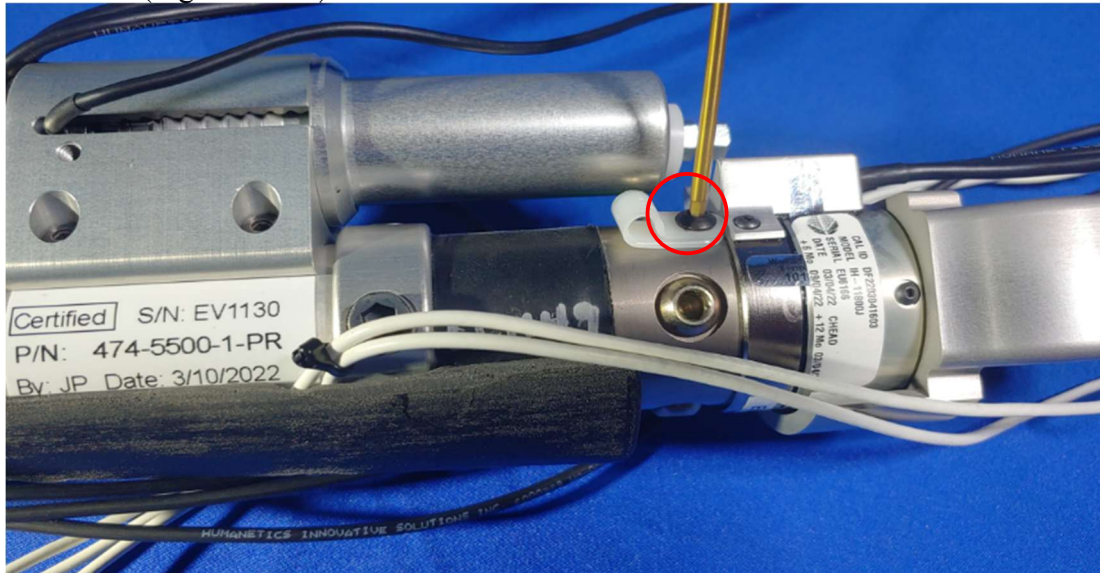
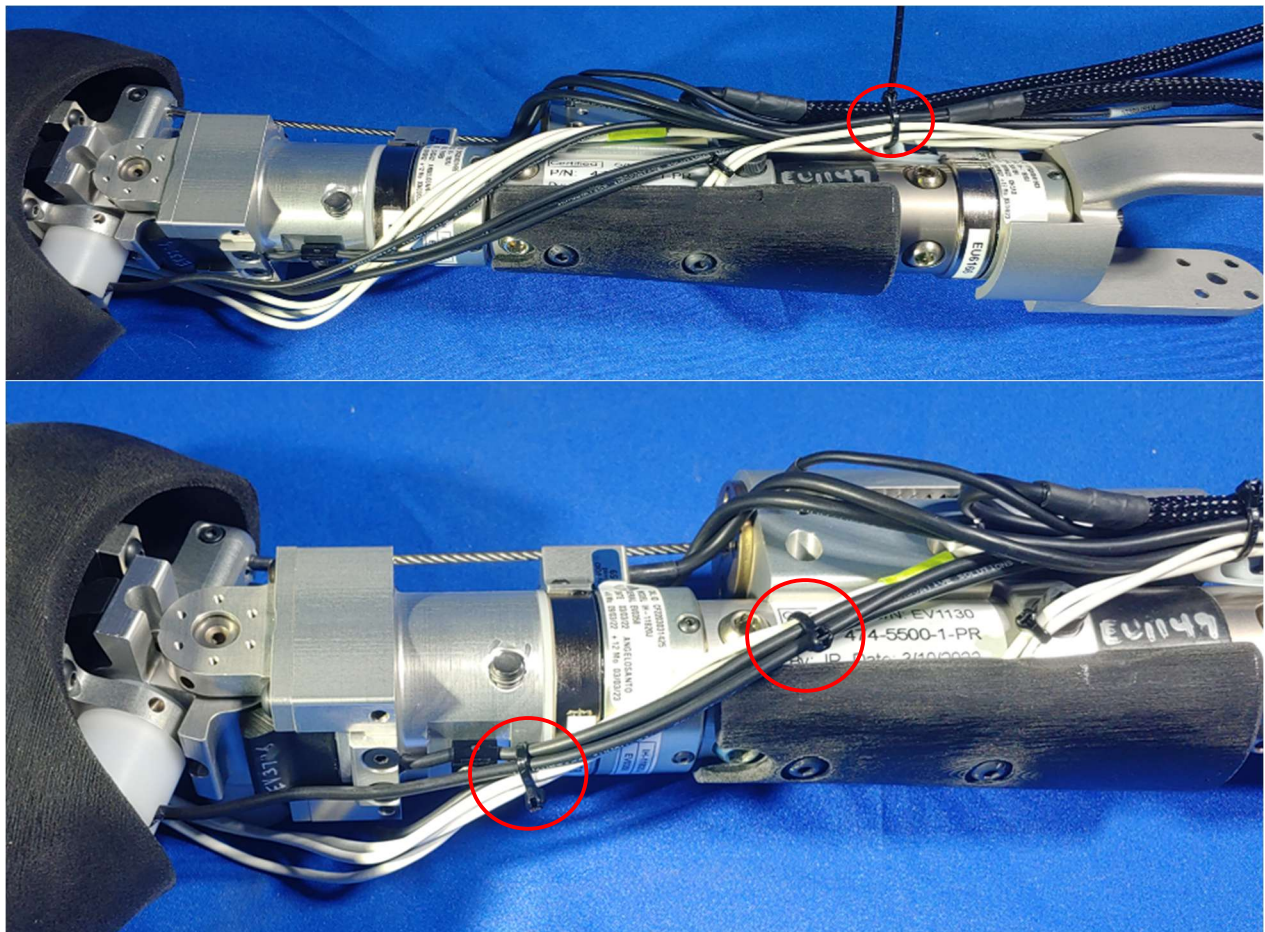

Figure 10-66. Install cable tie attachment.
Figure 10-67. Route and strain relieve lower leg instrumentation
- 10.3.31 Install cable tie attachment using one BHCS (Figure 10-66). Bundle the lower leg instrumentation wires and route upwards along the inner tibia and out at the upper tibia (Figure 10-67).